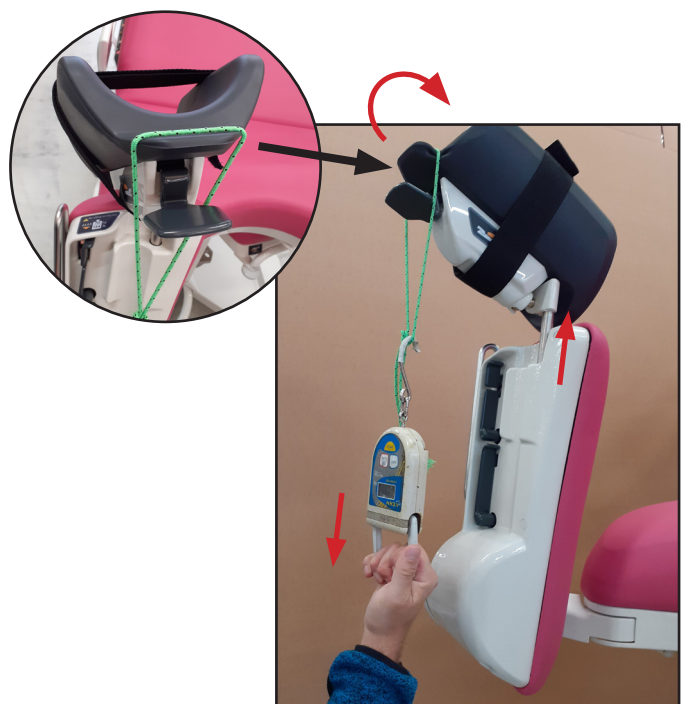
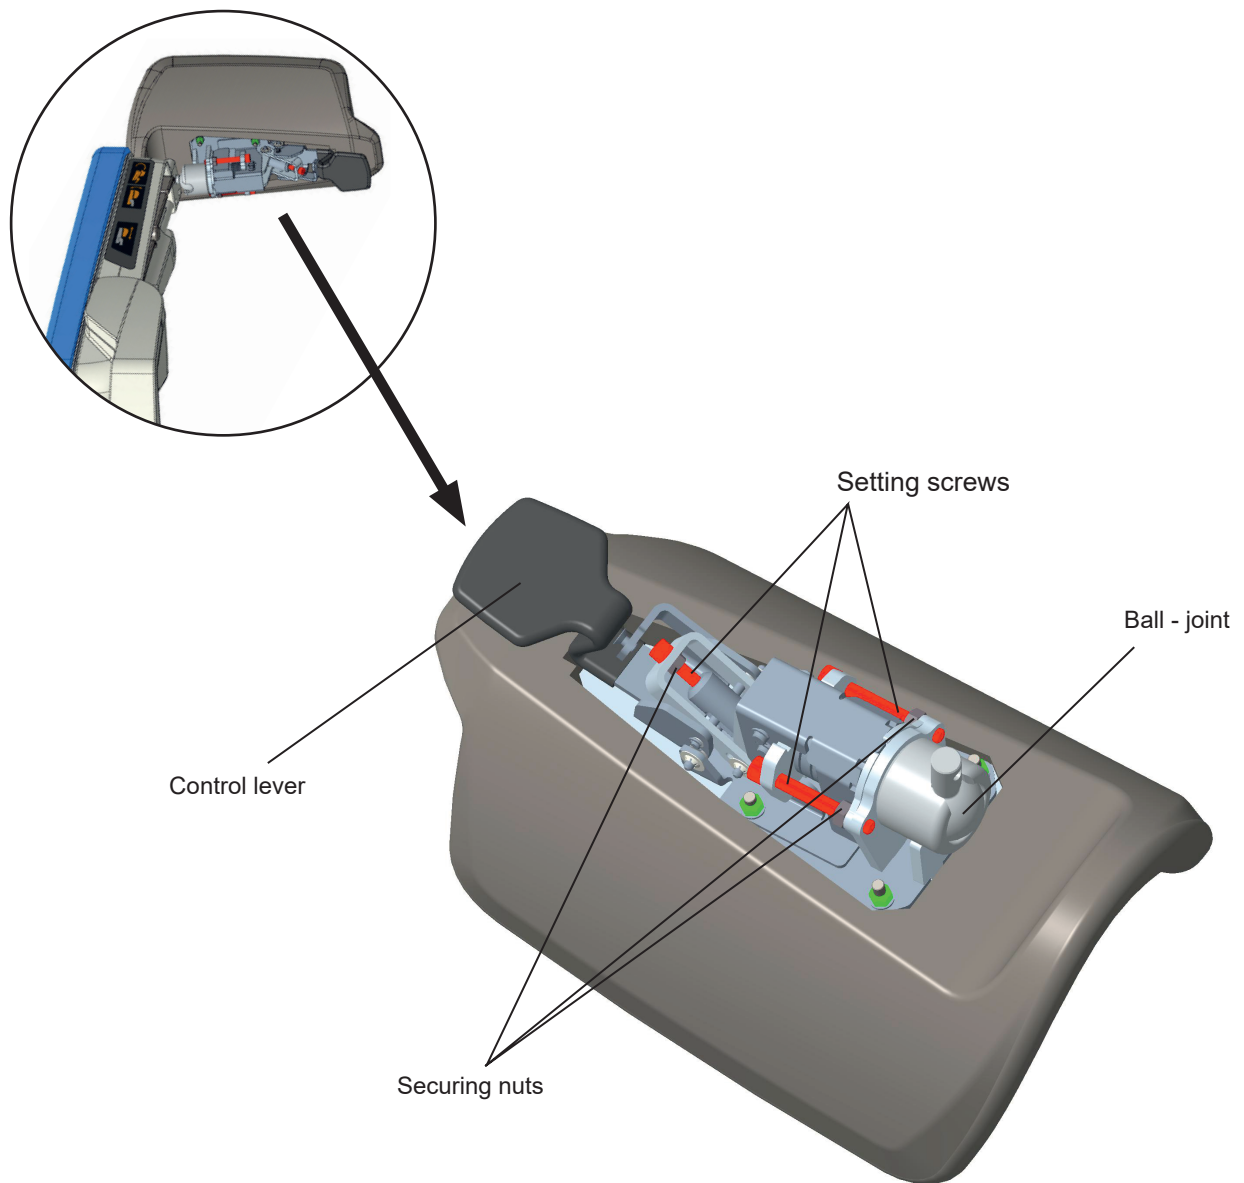

Fig. 32 Checking the adjustment of the ball-joint mechanism
Fig. 33 Setting screws and securing nuts of the ball-joint mechanism
To ensure the correct function of the legrest tray ball-joint mechanism, it must always be **checked and adjusted as part of the Periodic Preventive Maintenance** (see Fig. 32 and Fig. 33).
- ▶ Pull the digital scale holder downwards. Always ensure that the **positioning lever** is **not released** when pulling the cord (see detail in Fig. 32)